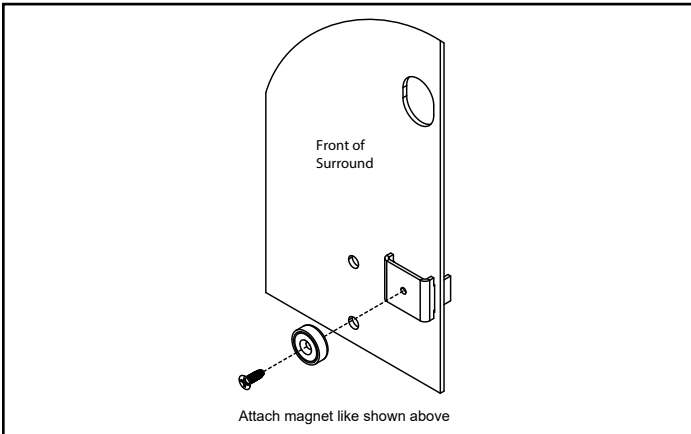

Figure 5.17
5. Secure the magnet to the bracket. The magnet is facing the front (Figure 5.17).